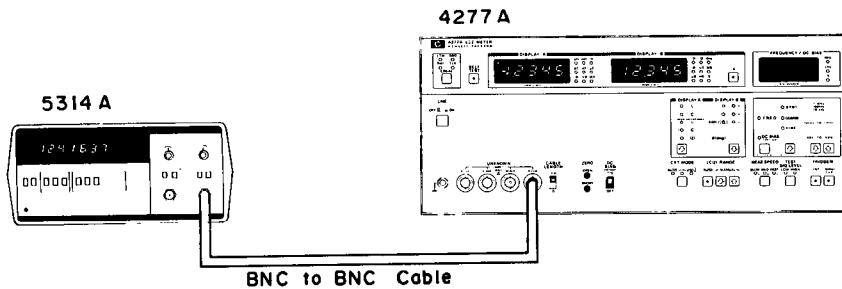

Figure 4-1. Test Frequency Accuracy Test Setup.
1. Connect the frequency counter to the 4277A UNKNOWN HCUR terminal as shown in Figure 4-1.